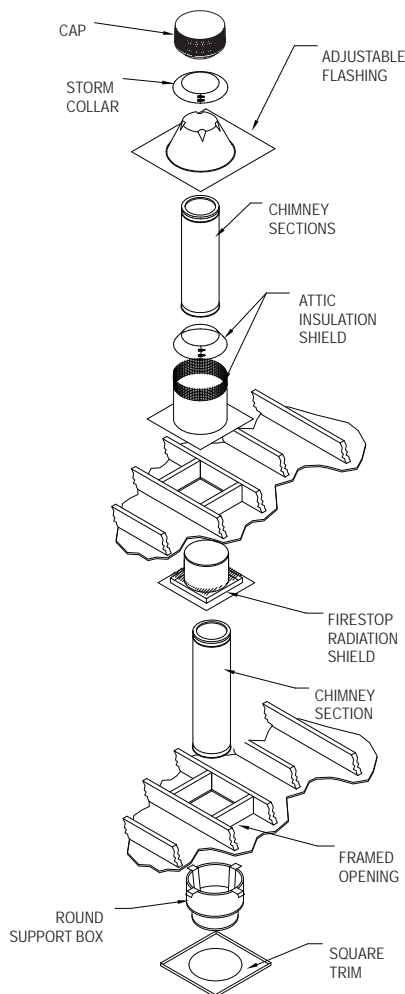

Figure 6
**4. Frame Openings:** Frame openings in each ceiling or floor above the Support Box (**Fig 6**). These openings are to hold the Firestop Radiation Shield and Attic Insulation Shield. Locate each opening by dropping a plumb bob to the four corners of the opening below. Maintain the minimum clearances and dimensions as specified in **Table 2**. If Elbows must be used to avoid an obstruction, refer to the Offset Elbow Installation section.
including where the chimney penetrates into the attic. **Figure 6** shows a typical 2-story installation with an attic.
- c. Slip the Attic Insulation Shield over the Chimney and Firestop Radiation Shield until the base sits squarely on the framed opening (*Fig 6 & 10*).